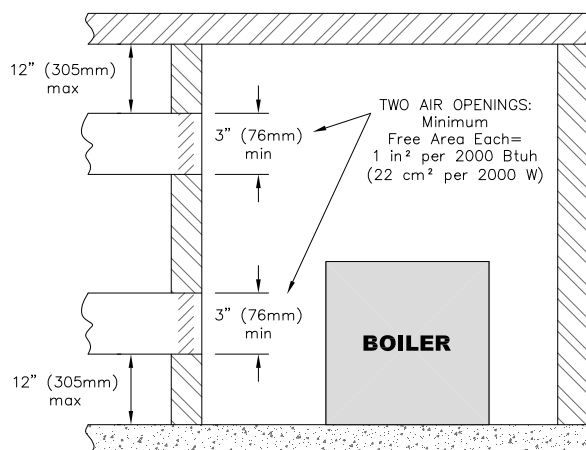

Figure 1.5: Air Openings – All Air from Outdoors through Horizontal Ducts
- ii. Where communicating with the outdoors through horizontal ducts, each opening shall have a minimum free area of 1 in² per 2000 Btu/hr (22 cm² per 2000 W) of total rated input for all appliances in the space. See Figure 1.5.